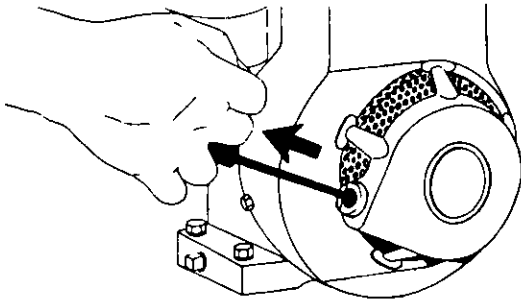

FIGURE 21.
4. Grasp starter handle (see figure 21) and pull rope out slowly until engine reaches start of compression cycle (rope will pull slightly harder at this point). Let the rope rewind slowly.